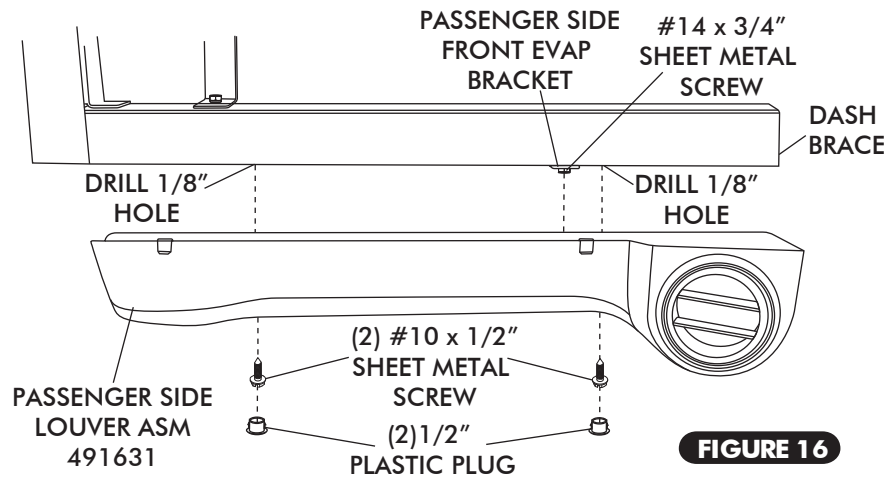

FIGURE 16
- ALIGN PASSENGER SIDE UNDER DASH LOUVER TO DASH BRACE USING PASSENGER SIDE FRONT EVAP BRACKET AND #14 x 3/4" SHEET METAL SCREW, DRILL (2) 1/8" HOLES IN DASH BRACE AND SECURE USING (2) #10 x 1/2" SHEET METAL SCREW AS SHOWN BELOW IN FIGURE 16.